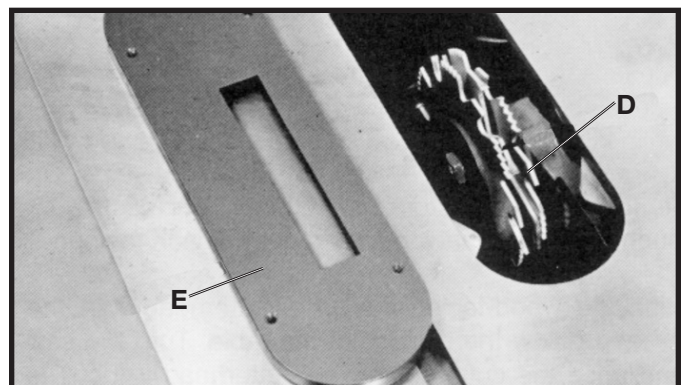

Fig. 72
2. Attach the dado head set (D) Fig. 72, to the saw arbor. **NOTE: THE OUTSIDE ARBOR FLANGE CAN NOT BE USED WITH THE DADO HEAD SET, TIGHTEN THE ARBOR NUT AGAINST THE DADO HEAD SET BODY. DO NOT LOSE THE OUTSIDE ARBOR FLANGE. IT WILL BE NEEDED WHEN REATTACHING A BLADE TO THE ARBOR.**
⚠ CAUTION THE ACCESSORY DADO HEAD SET TABLE INSERT (E) FIG. 72, MUST BE USED IN PLACE OF THE STANDARD TABLE INSERT.